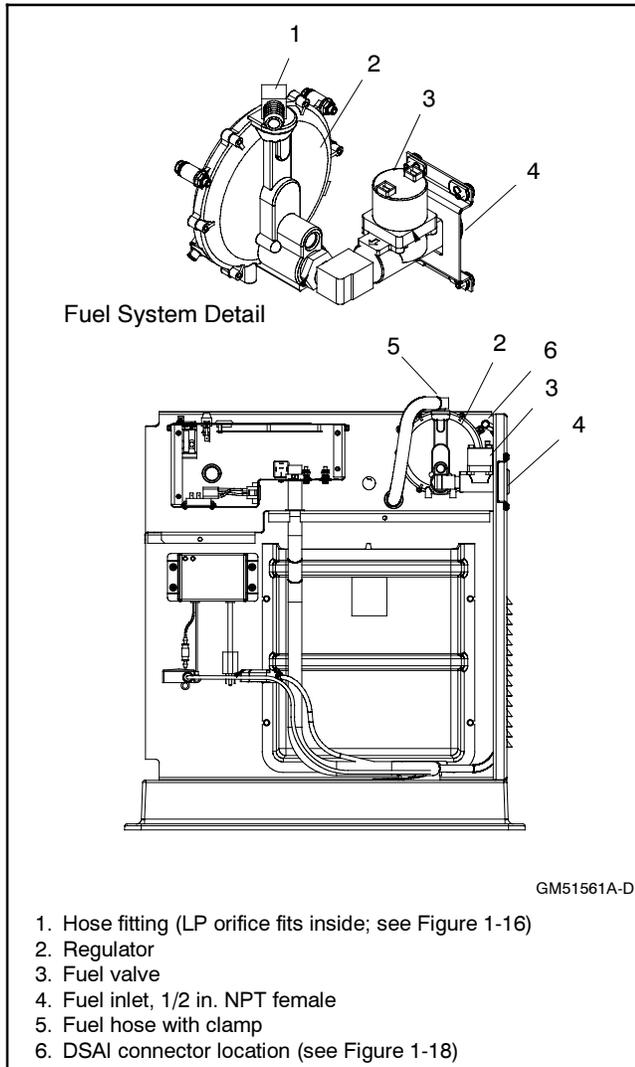

Figure 1-15 Fuel System Components, Air Inlet Side, 17/18 kW Shown
For LP vapor fuel, an orifice is used in the fuel line. The unit is typically shipped set up for natural gas, with the loose orifice tied near the fuel line. To convert to LP vapor, install the orifice and disconnect the spark advance leads as described below. See Figure 1-15 for the fuel system component locations.
5. Remove the hose clamp and fuel hose from the hose fitting. See Figure 1-15.